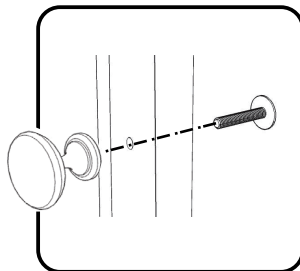

Figure 8
Attach Knob to Door (S) with Machine Screw. (See Figure 8)